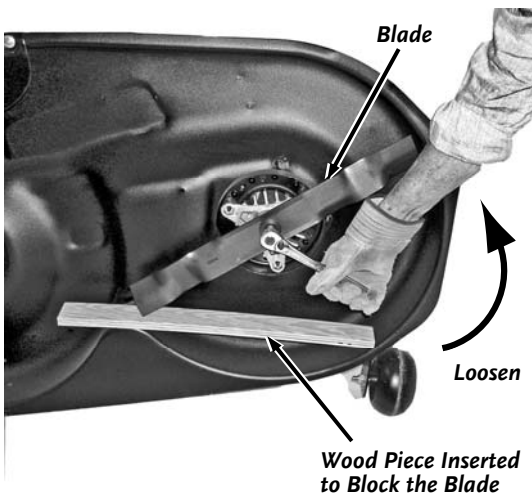

Figure 16
2. Block the Blade with a piece of wood between the Blade and the Mower Deck. (Figure 16)